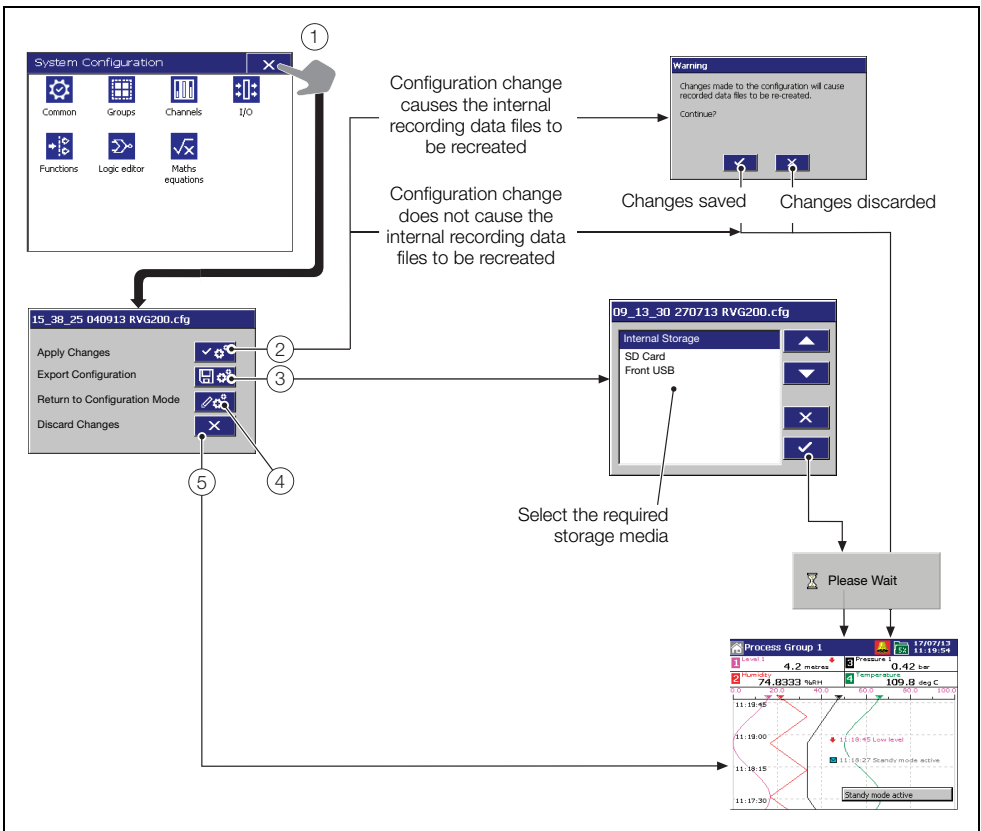

Fig. 8.7 Exiting configuration mode
Referring to Fig. 8.7, exit the **Configuration** level as follows:
- Changes to the date and time are effective immediately  in the dialog box is touched. Touch  in the dialog box to exit date and time setup without saving changes. Touching  when exiting the **Configuration** level (see Fig. 8.7, page 68) **does not** reset the clock to its previous setting.